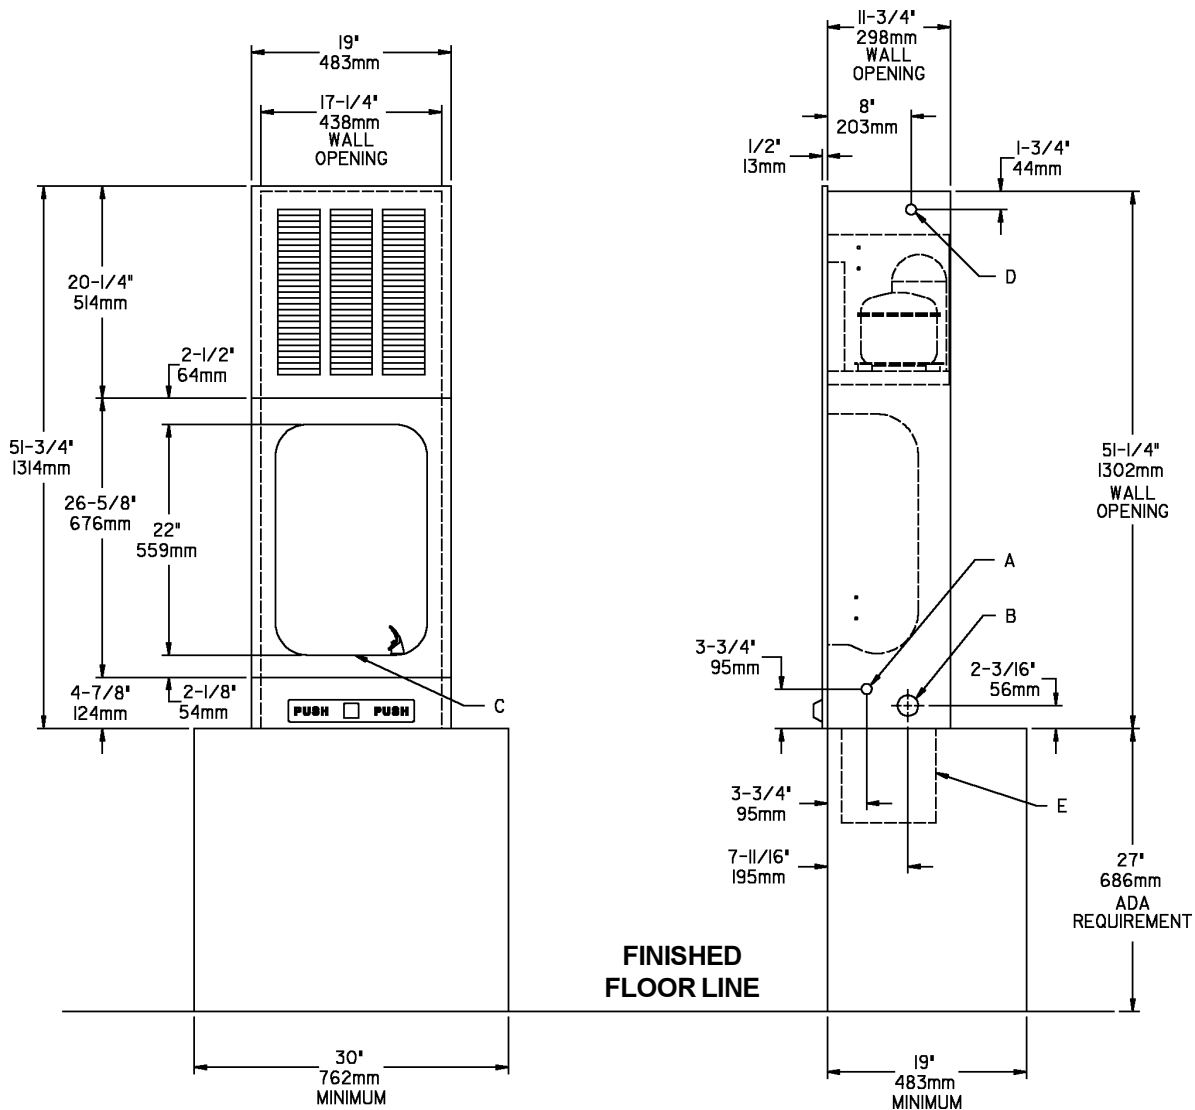

FIG. 1
2. **Fasten** mounting box into wall cutout using screws or bolts (provided by others) through holes or knockouts provided on each side of the mounting box. (See Fig. 1)
3. **Place** refrigeration package into mounting box and connect water lines. (See Fig. 1)